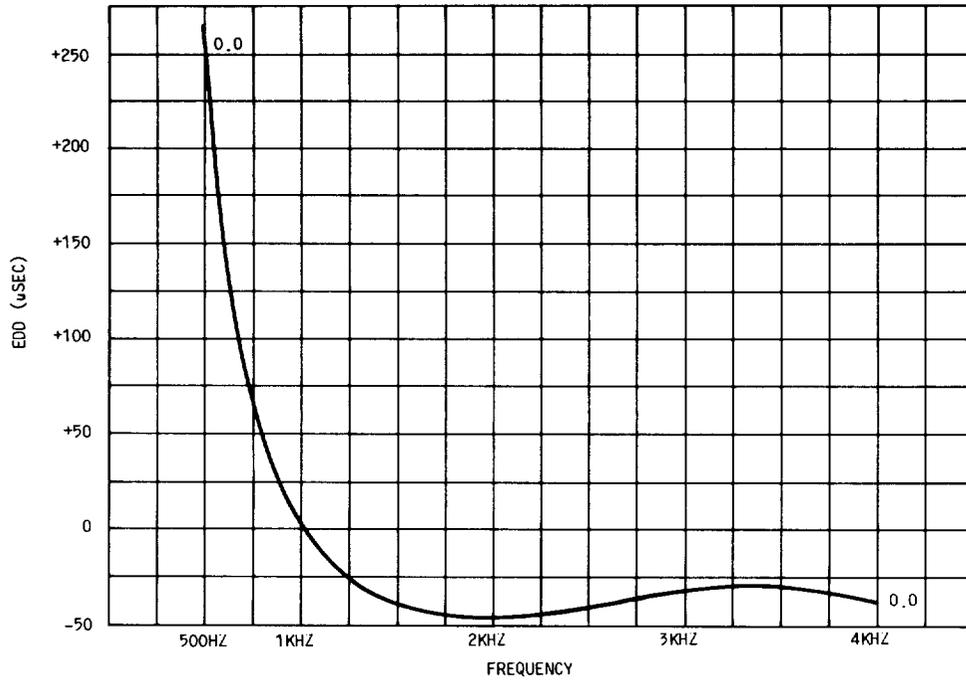

Fig. 7—Envelope Delay Distortion Curve
5.03 Figure 7 gives the envelope delay distortion for these CFUs.